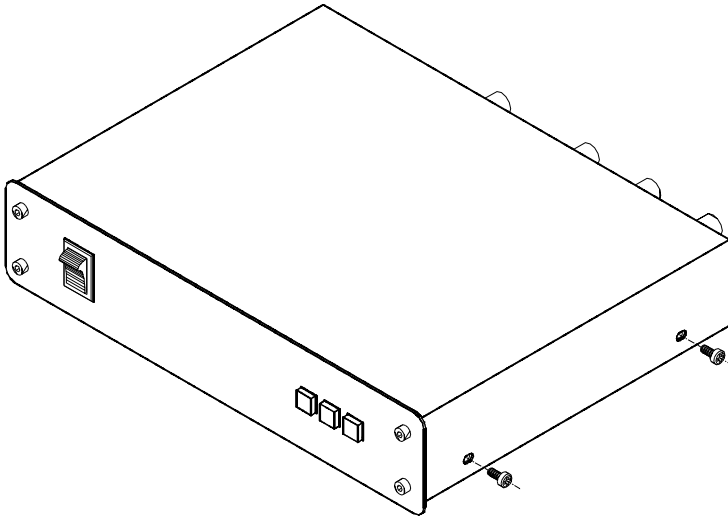

Figure 3: Removing the Cover of the FC-7501
1. Unfasten the two pairs of screws on each side of the cover of the **FC-7501** and remove the cover, as *Figure 3* illustrates: